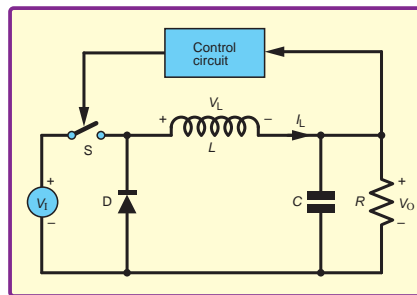

Fig.2. Basic switching converter schematic (buck converter)
We will consider a switching regulator DC-DC converter that uses pulse-width modulation to control the output voltage. A simplified example circuit is shown in Fig.2 – this is a step-down buck converter ( $V_I < V_O$ ). When the switch (S) closes, current flows from the source to the inductor and through the load. The inductor acts as an energy store (stored in its magnetic field). When the switch is open, the stored energy is released into the load, with the forward-biased diode providing the complete circuit for current to flow. When the switch is closed and the input voltage is connected across the diode, the diode is reverse biased and does not conduct.
When the switch is open the voltage across the inductor is also constant and is equal to the load voltage, but opposite in sign (see the voltage orientations denoted on Fig.2). Under these conditions the inductor is outputting energy into the load and its current is ramping down at a constant rate – a negative slope of  $di/dt$  in the above equation corresponds with the negative voltage. Note that the inductor current flows in the same direction irrespective of switch position, but the relative polarity of the inductor and load voltage change by virtue of the switching arrangement. The switched nature of the circuit means that the output voltage has a tendency to vary (ripple) with the switching cycle, but this is smoothed by the capacitor (C).